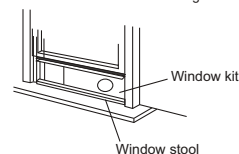

Fig.8
4. Close the window sash securely against the kit. Fig.8.